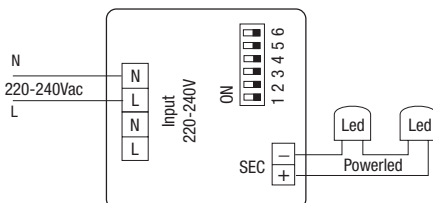

Fig. 2 - RN9167 - RN9167/BI
- A - Funzione 0÷10Vdc (S10) - DIM34... (R) - Fig. 2 -** Tramite segnale di controllo 0÷10Vdc
- A - 0÷10Vdc (S10) function - DIM34... (R) - Fig. 2 -** By means of control signal 0÷10Vdc